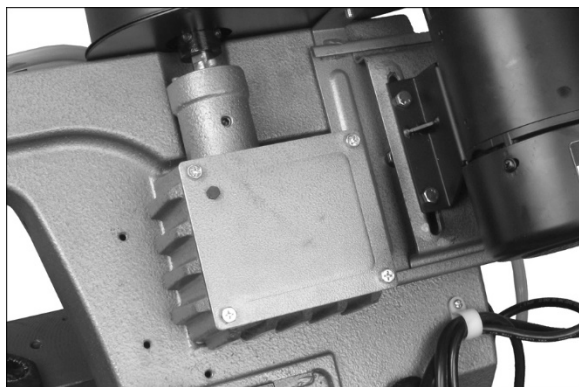

Figure 10-1: Gearbox
3. Remove control box and bracket to expose gearbox (Figure 10-1).
8. Remove vent plug (Figure 10-1) with 8mm wrench, and fill gear box with approximately 1/2 pint of 90W oil, through the hole. Reinstall vent plug.